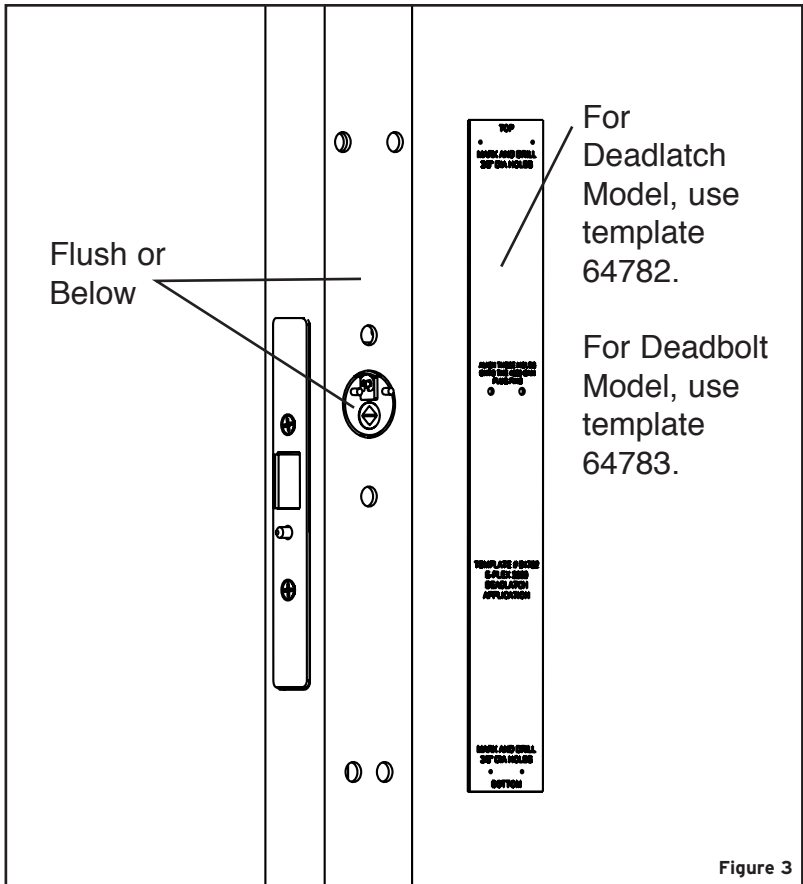

Figure 3
- B-2** Affix the appropriate model Template to the outside face of the door stile. Ensure the pins from the Cam Plug are through the proper holes, the template is straight and aligned with the edge of the door, and that "TOP" is facing up and "BOTTOM" is facing down (See Figure 3).